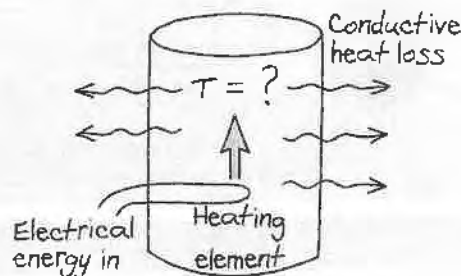

FIGURE 16.13 Balance between the heat supplied by the electric element and the conductive loss determines the water temperature.
**DEVELOP** Figure 16.13 is a sketch suggesting energy balance in the heater. We're given the conductive heat loss of 120 W/°C, meaning that the total heat-loss rate is  $H = (120 \text{ W/°C})(\Delta T)$ . We then equate the heat-loss rate to the energy-input rate:  $(120 \text{ W/°C})(\Delta T) = 2.5 \text{ kW}$ .